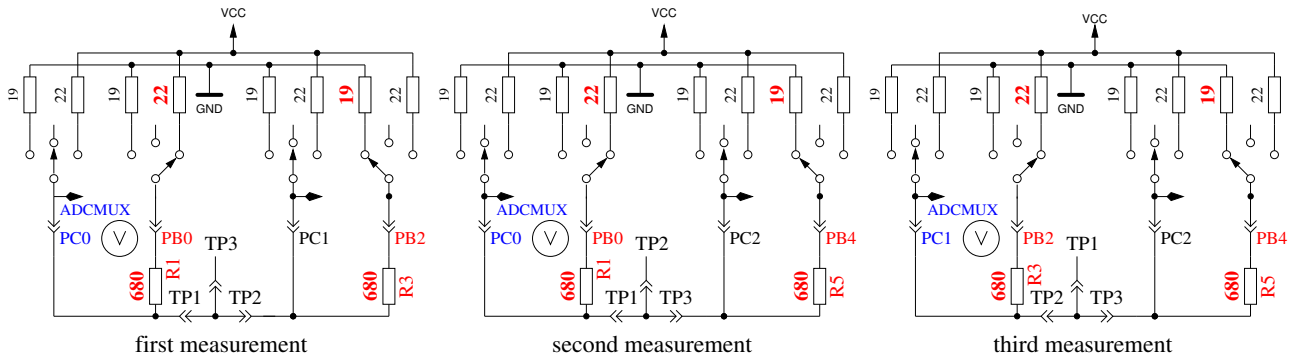

Figure 5.61. Comparison of 680Ω resistors
2. **Comparing of the 680Ω resistors.** In row 1 the cryptic text “+RL- 12 13 23” is shown. Meaning of this is as follows: The RL is the short form of Resistor Low meaning the 680Ω resistors. The 12 stand for: resistor at pin 1 is connected to VCC (+) and resistor at pin 2 is connected to GND (-). The result of this measurement is displayed in row 2 at the first place as difference to the theoretical value. In row 1 follows now a “13” which means, that the first connection of measurement 1 is still connected with 680Ω to VCC but that the resistor of pin 3 is connected to GND. The result is displayed in the middle place of row 2 as difference to the theoretical value. The last measurement of this test “23.” means that now the resistor at pin 2 is connected to VCC (+) and the resistor of pin 3 is connected to GND. The result of measurement is displayed at the last place of LCR row 2 as difference to the theoretical value. Please remember, that the resolution of the ADC is about 4.88mV! The measurement situation is also shown in figure 5.61. The theoretical value with respect to the internal resistance of the pins should be: $\frac{5001 \cdot (19+680)}{(19+680+680+22)} = 2493$.